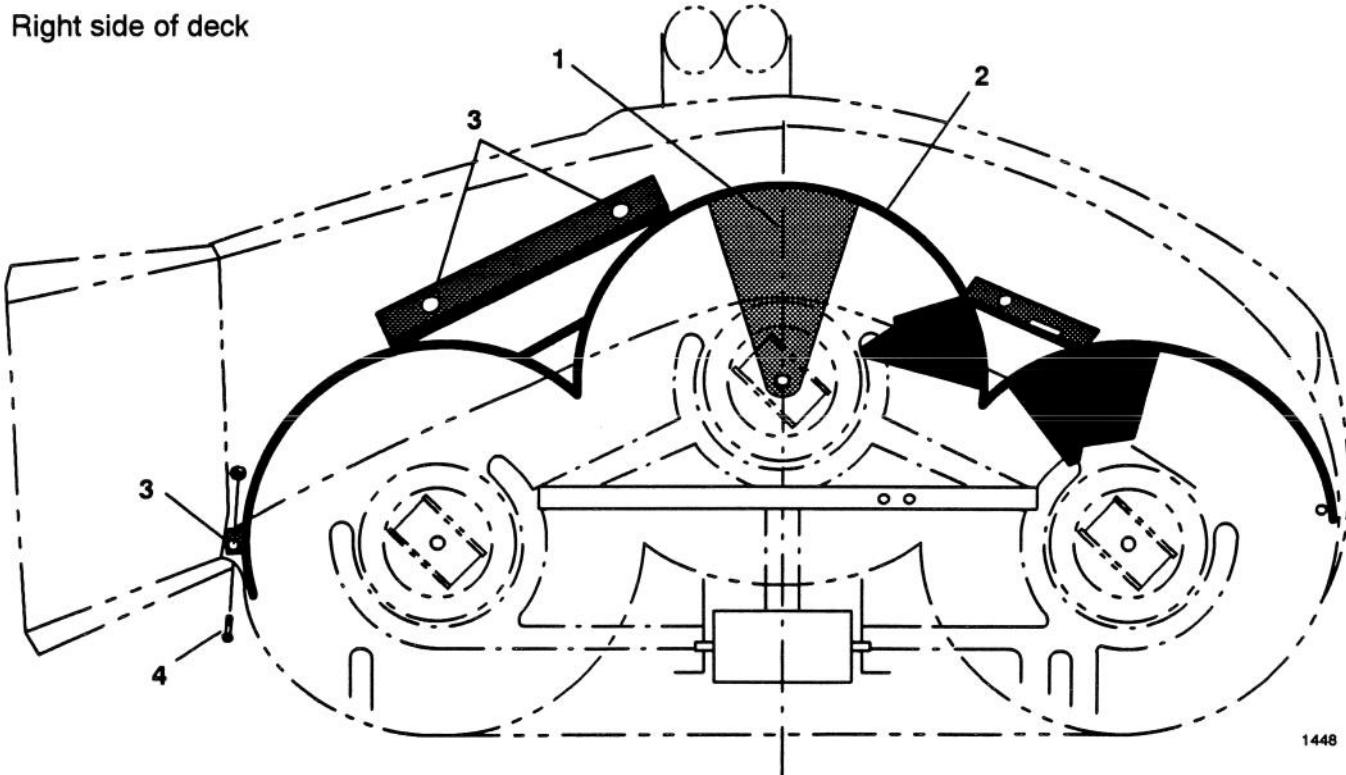

Figure 1
- 4 Install template onto center spindle and align with center line at front of mower deck (Fig. 1). Hold template in position by loosely installing a blade mounting bolt.
- 5 Place baffle inside cutting chamber. Position center chamber of baffle so it touches location template. Clamp right side of baffle at rear edge of the discharge chute (Fig. 1).
- 6 Using the baffle as a guide, drill (3) 11/32 (.343) inch holes in the right side and discharge chute brackets of the baffle (only discharge chute side) (Fig. 1).
- 7 Place 5/16-18 x 5/8 inch bolts from outside of deck through bracket and secure baffle with lock nuts (Fig. 1).
- 8 Place 5/16-18 x 1 inch bolt from outside of deck through bracket at discharge chute and secure with lock nut (Fig. 1).